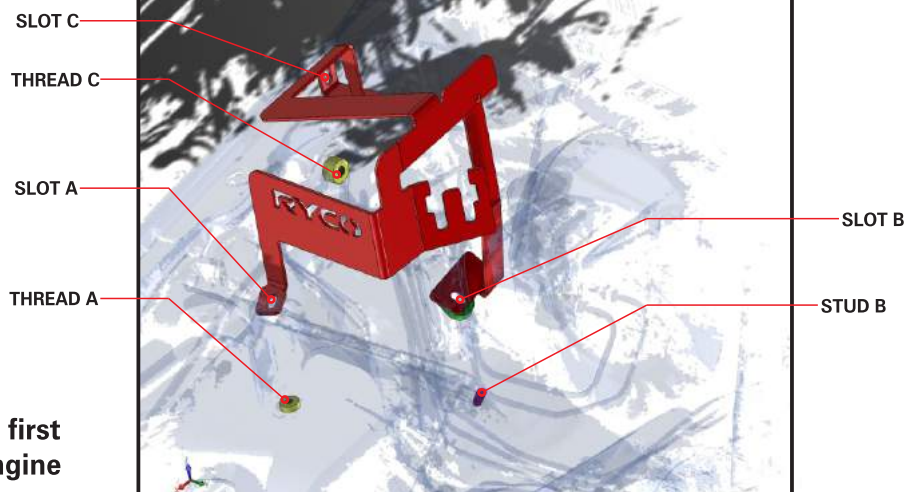

FIG. 9B FB9810CX SLOT/THREAD/STUD LOCATIONS
6. Referring to FIG. 9B, we recommend first engaging the bracket Slot B on to engine Stud B under the brake pipes. Then proceed to line up Slot A with Thread A behind the air box. Finally, line up Slot C to be concentric with Thread C behind the ABS Module.